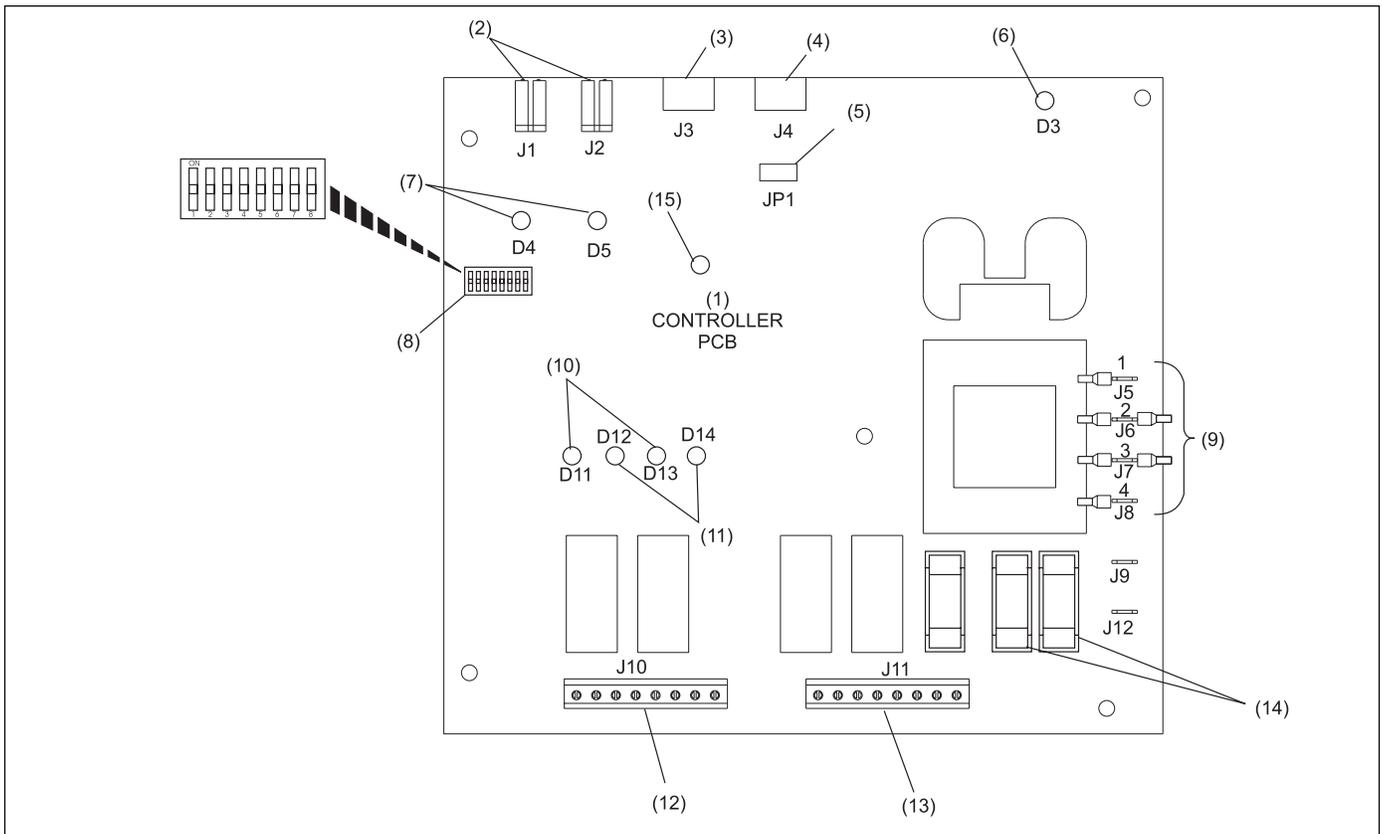

Figure 3. Automated Bumper Controller PCB
The emergency up switch mounted on the ball return capping, overrides any information received from the System Controller or I/O PCB causing the automated bumper controller to raise the gutters. Refer to *Figure 3*.
- *Communication In (J3)* - Input for communication entering the PCB. On the first lane pair for Stand-Alone configurations, this information comes from the system controller located at the control desk. Refer to *Figure 3*. For additional lane pairs in a Stand-Alone system the cable comes from the prior lane pair bumper controller. Refer to *Communications Out (J4)*. For installations with Frameworkx scorers, the input data to J3 is sent from the I/O PCB - J2.
Several LEDs are located on the controller PCB to indicate various operating functions/conditions. Refer to *Figure 3* for LED locations on the controller PCB. The LED functions are:
There are three fuses located on the controller PCB. Refer to *Figure 3*.